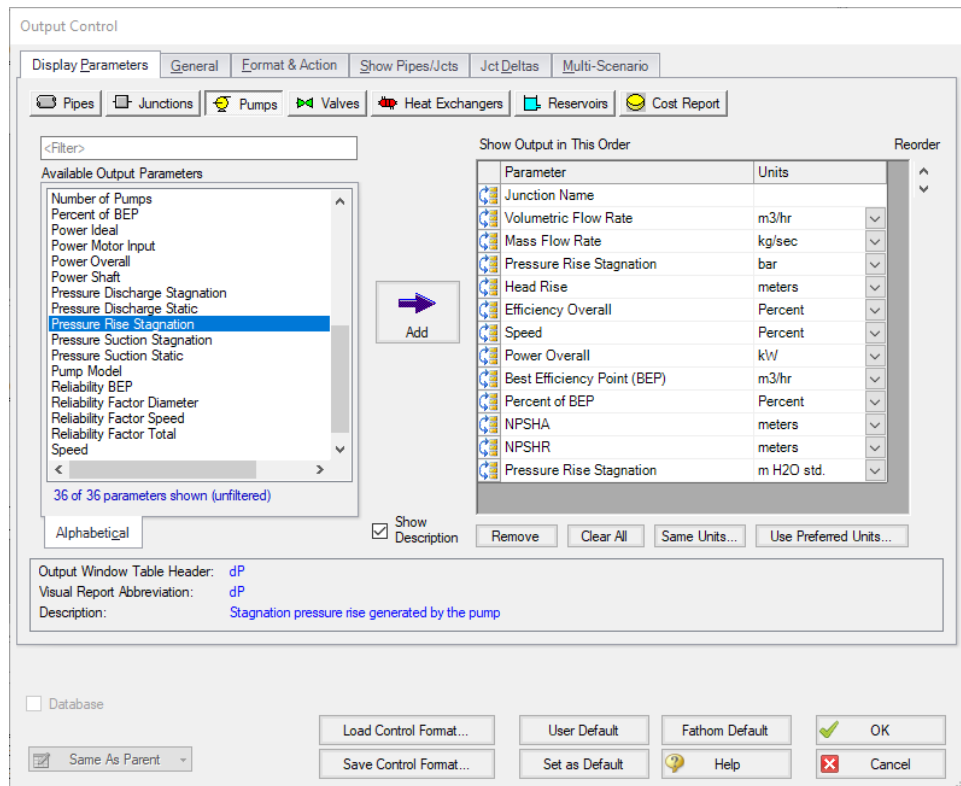

Figure 7: The Output Control window Pumps report
5. Choose **Pressure Rise Stagnation** and add it. Then change its units to m H₂O std.. This is the head rise in terms of water head. See Figure 7.